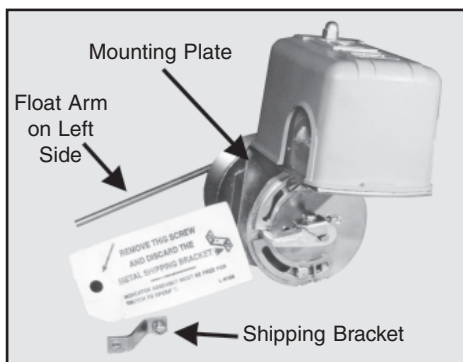

FIGURE 3—Float Switch
- B. Remove shipping brackets on float switches. Per instructions on tag attached to float switch, remove shipping bracket (See Figure 3) from each float switch as per manufacturer's instructions. The float switches have been factory set for maximum capacity of the receiver. Should an alternate setting be required, refer to the float switch manufacturer's instructions. If needed, reference Technical Articles section on the SHIPCO® website (www.shipcopumps.com) for detailed instructions on how to adjust a float switch (*Adjusting a Nema 1 Square-D, 9037 Series Float Switch*).